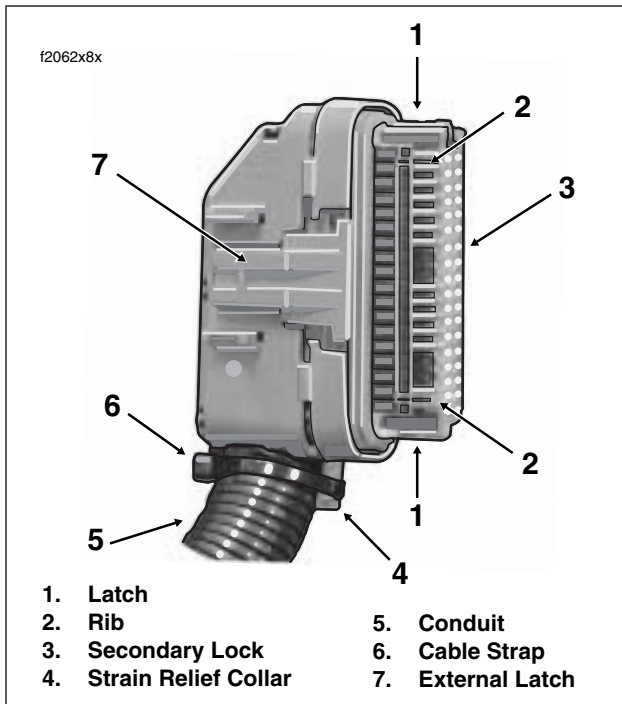

Figure 8-50. Remove Secondary Lock
1. Gently depress latch on each side of the clear plastic secondary lock and remove. For best results, release one side at a time, See Figure 8-50.
3. Install **new** cable strap in groove of strain relief collar capturing cable conduit. See Figure 8-50.